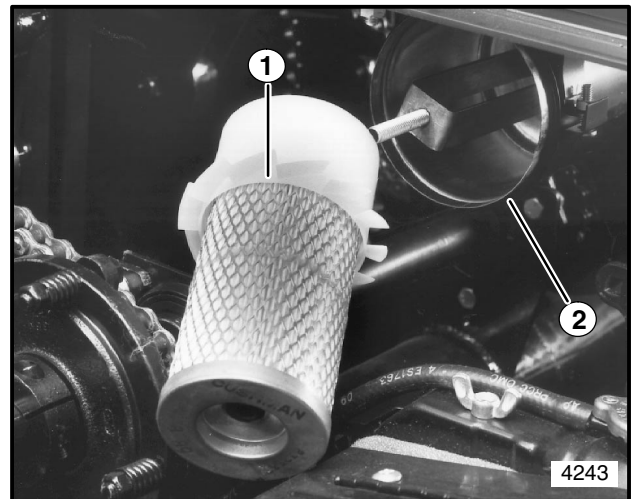

Figure 3
3. Insert element into housing as shown in Figure 3.